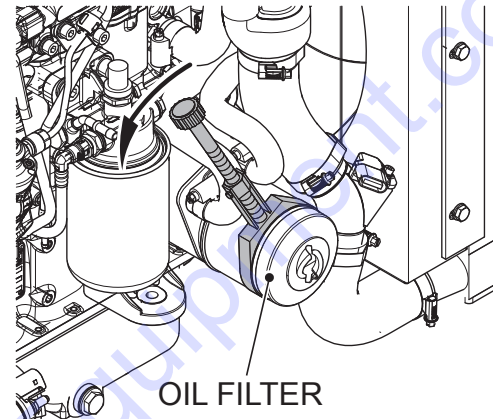

Figure 37. Removing Oil Filter
1. Loosen the oil filter (Figure 37) with a strap wrench or similar tool and unscrew it.